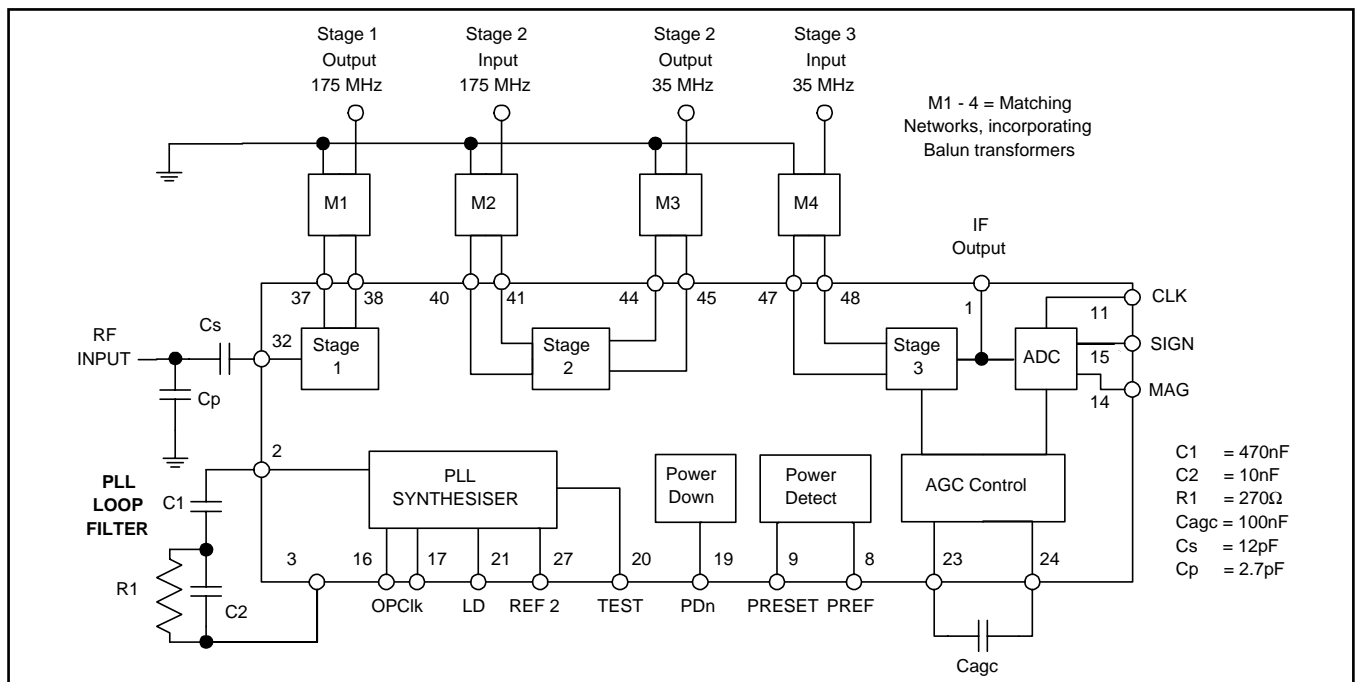

Figure 3 - GP2015 test circuit
**Notes on Electrical Characteristics:-** All RF measurements are made with appropriate matching to the input or output impedances, such as balun transformers, and levels refer to matched 50ohm ports (see figure 3 for test circuit)